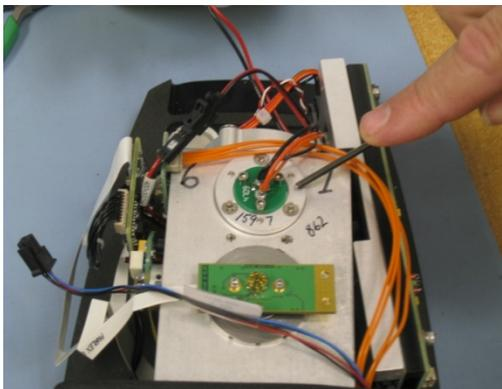

Figure 28. Source assembly in interferometer frame
- 6 Identify the source assembly. The source is located on the top of the interferometer frame. It is secured by three Philips head screws (see Figure 28). Using the appropriate Philips head screwdriver, remove all three screws.